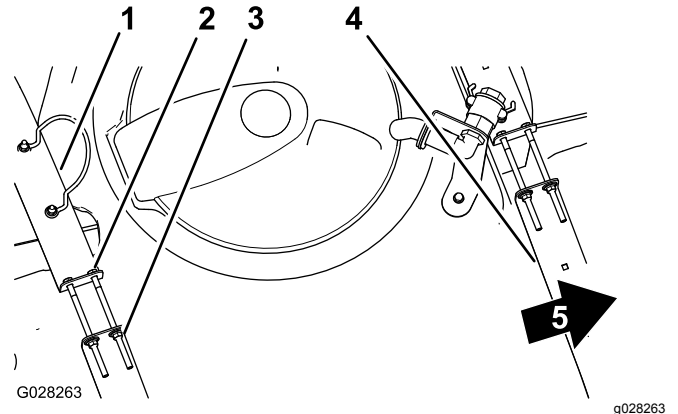

Figure 18
2. Check to see if there is any movement between the tank straps and the tank (Figure 18).
3. If the tank straps fit loose to the tank, tighten the flanged locknuts and bolts at the top of straps until the straps are flush with the surface of the tank (Figure 18).